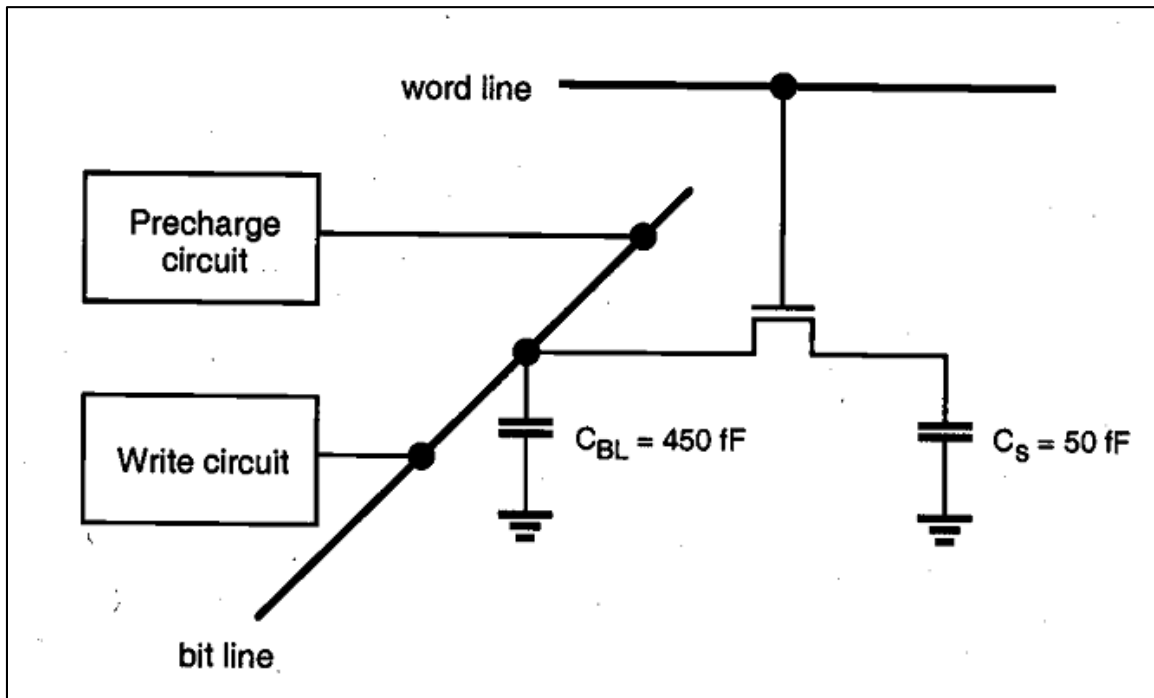

Figure 3
- 2) A single-transistor DRAM cell is represented by the following circuit diagram (Figure 3). The bit line can be pre-charged to  $V_{DD}$  by using a clocked pre-charge circuit. Also the WRITE circuit is assumed here to bring the potential of the bit line to  $V_{DD}$  or 0 V during the WRITE operation with word line at  $V_{DD}$ . Using the parameters given: